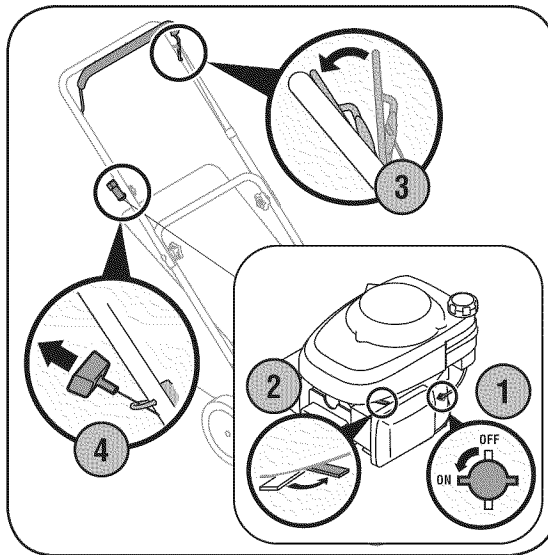

Figure 4-3: Starting the 439Q mower.
1. Place the fuel valve lever found on the left side of the engine into the ON (OPEN) position, Figure 4-3.
3. Standing behind the mower, squeeze the blade control against upper handle, Figure 4-3. The choke will now begin to slowly return to the off choke position after activating the blade control. Therefore, quickly move onto step four below.
4. Holding these two handles together firmly, grasp recoil starter handle and pull rope out with a rapid, continuous, full arm stroke, Figure 4-3. Keeping a firm grip on the starter handle let the rope rewind slowly. Repeat until engine cranks. Let the rope rewind each time slowly.